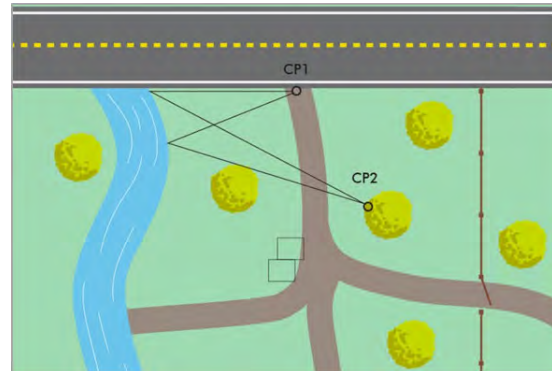

Figure 21
You shoot from each feature to the control points which forms a triangle, and in some cases measure from the control points to the feature. The feature and the two control points form a triangle, and the geometry of the triangle is used to determine X, Y, Z coordinates for each feature. Figure 21 shows how the same campground perimeter would be measured using the Range Triangulation method. The operator started this map by walking along the river bank and shooting back to the control points.
To map this scene, stand at a feature and shoot back to Control Point 1 (CP1), then to Control Point 2 (CP2). In Figure 21, the black lines represent the measurements taken between the control points and two features along the river bank.
- Looking at Figure 21, points further along the river bank would have the buildings blocking the view to CP2. At the top of the MapSmart Data Collection screen, there are two icons for setting a new control point, one for CP1 and one for CP2. Select the correct option for the control point to be moved, move the equipment to the new control point, and continue logging points.